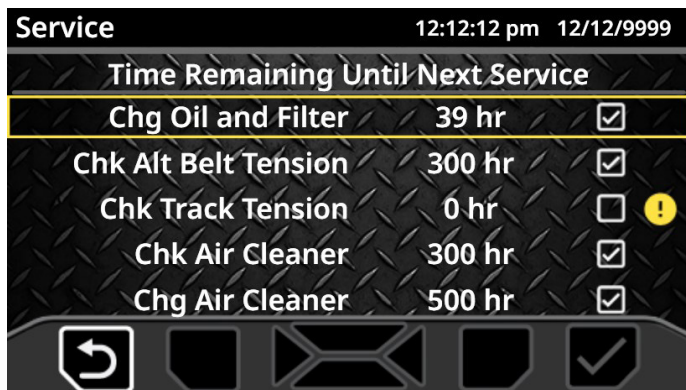

Figure 4-6. Vehicle Service Menu
- 15. Dump Valve Control Levers (Figure 4-6).** Located on the hydraulic pumps, used to "free-wheel" the track loader. Rotating the levers clockwise until they stop (closed) allows the unit to move under hydraulic power. The levers must be in this position and torqued to 10 lb.-ft. during operation of the track loader. Rotating the levers counter-clockwise (open) allows the track loader to be moved by hand (free-wheeling). Rotate levers no more than 2 turns.
The Vehicle Service menu indicates the time remaining until the service is needed. When service has been completed check the indicator box, the countdown will restart. When service is required there will be a yellow indicator by the type of service to perform. See Figure 4-6. See the operator's manual or dealer for service.